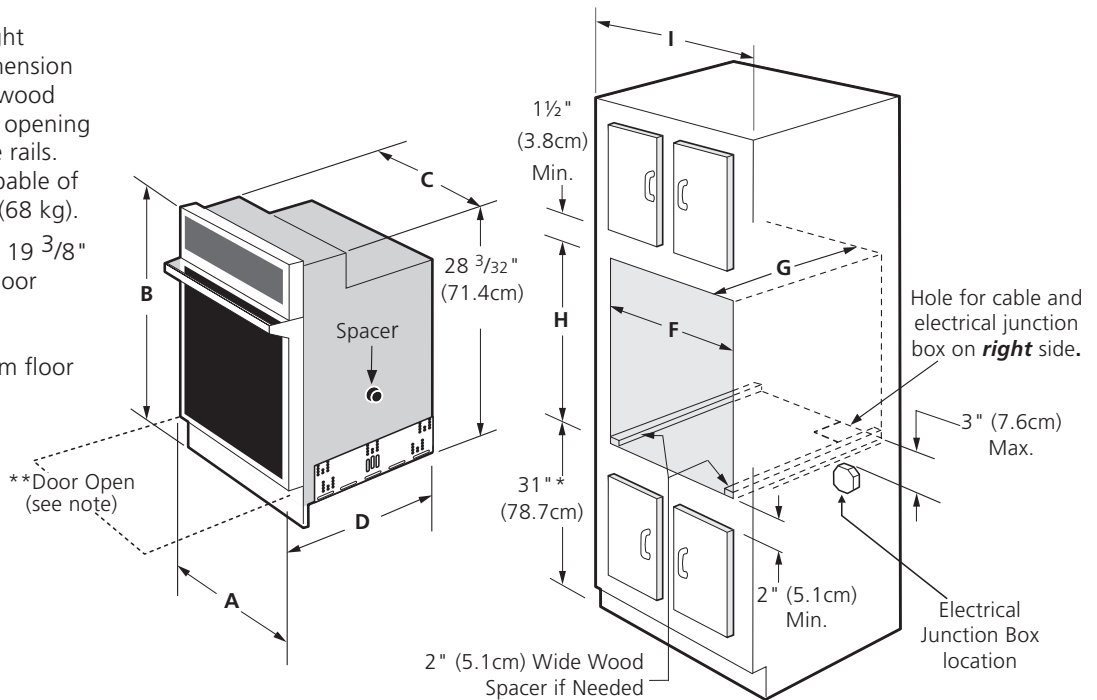

Figure 1
Refer to figure 1 for the dimensions applicable to your appliance, and the space necessary to receive the oven. The oven support surface may be solid plywood or similar material, however the surface must be level from side to side and front to rear.
2. These appliances should be connected to the fused disconnect (or circuit breaker) box through flexible armored or nonmetallic sheathed cable. The flexible armored cable extending from the appliance should be connected directly to the junction box. The junction box should be located as shown in Figure 1 and with as much slack as possible remaining in the cable between the box and the appliance, so it can be moved if servicing is ever necessary.
Oven height can be adjusted with 2" (5cm) wide wood shims when needed to fit into an existing cabinet cutout opening, when cutout height exceeds **H Min.** dimension (see Figure 1).